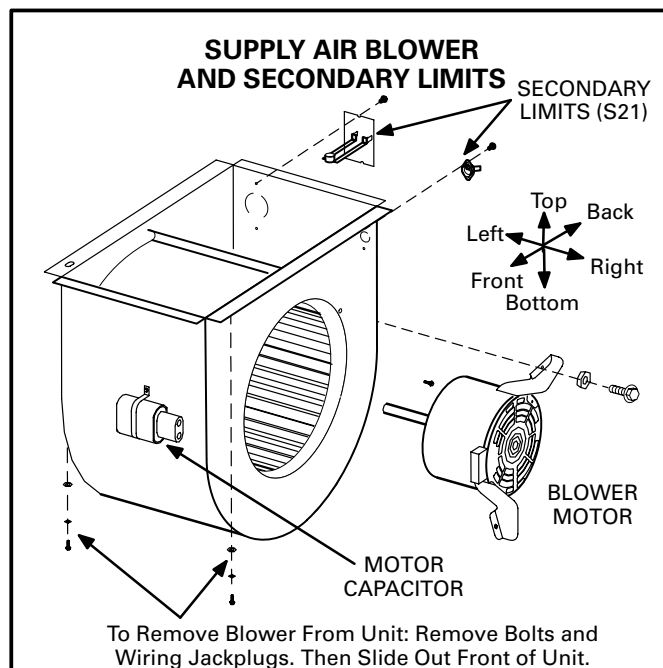
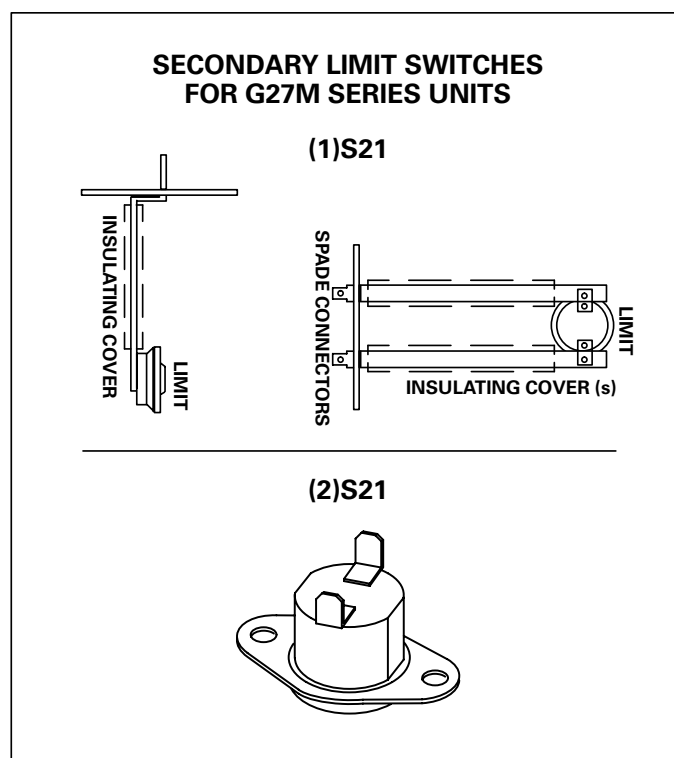
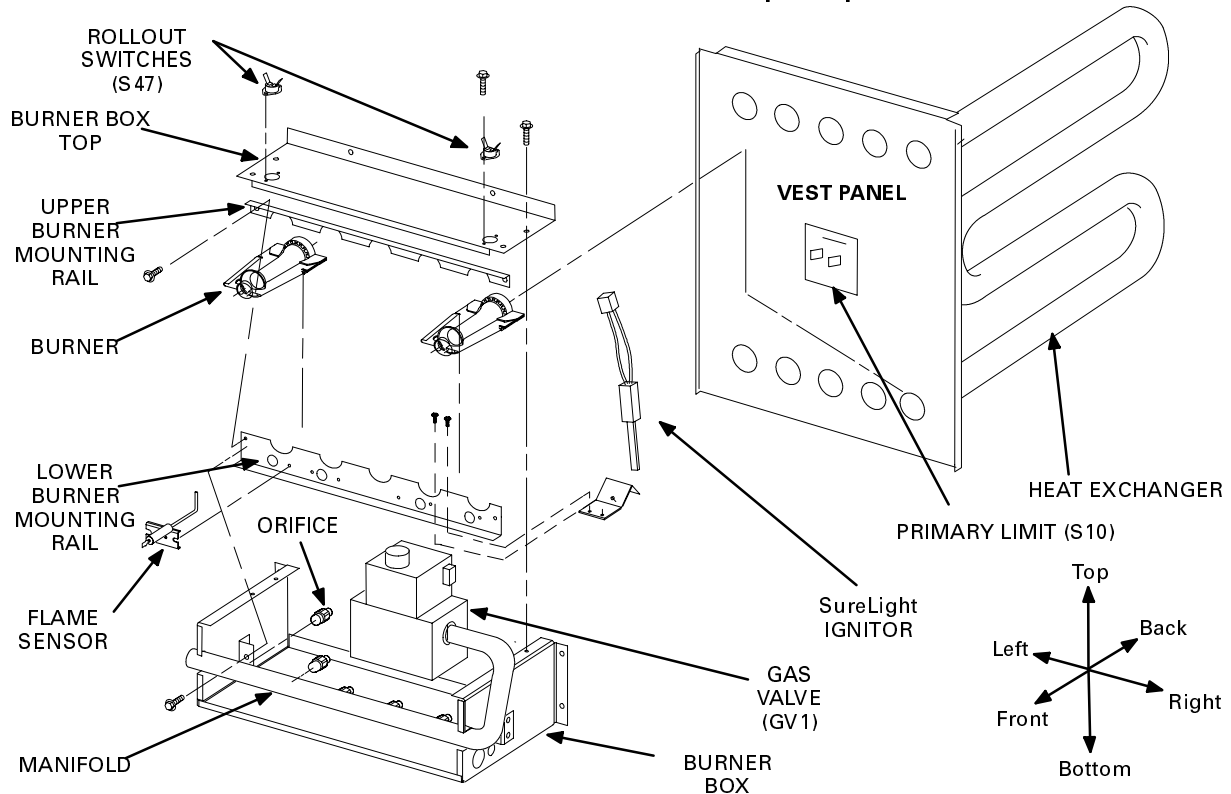

FIGURE 6
FIGURE 7
FIGURE 9
The secondary limit switches [(1)S21 and (2)S21] on G27M units are located in the blower compartment on the back side of the blower housing (see figure 6). When excess heat is sensed in the blower compartment, the limit will open. If the limit is tripped, the SureLight control energizes the supply air blower and closes the gas valve. The limit automatically resets when unit temperature returns to normal. Two limits are supplied in each furnace. Figure 7 shows both switches. Both switches are N.C. SPST auto-reset switches which actuate on a temperature rise. The switches are factory set and cannot be
The primary limit (S10) is located in the middle of the heating vestibule panel (see figure 9). S10 is the same type of limit as (1) S21 or (2) S21 as shown in figure 7. G27M-60 and -75 units use the same type limit as (1) S21. G27M-100 and -120 units use the same type limit as (2) S21. When excess heat is sensed in the heat exchanger, the limit will open. If the limit is tripped, the SureLight control energizes the supply air blower and closes the gas valve. The limit automatically resets when unit temperature returns to normal. The switch is factory set and cannot be adjusted. The switch has different set-points for each unit model number. However, the set point will be printed on the side of the limit.